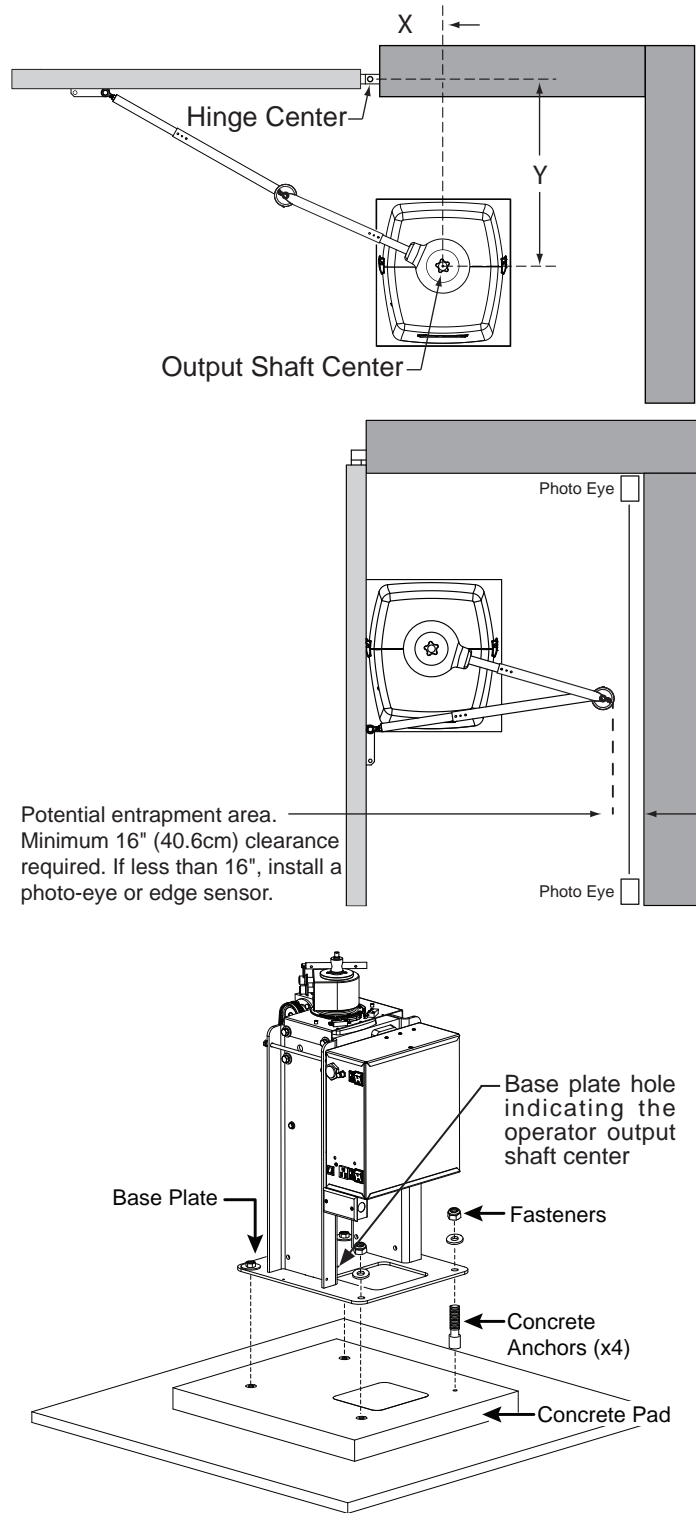

Figure 5. Mounting Operator
2. Before placing the operator on the pad, measure and mark the output shaft center on the concrete pad by selecting the X and Y dimensions. Refer to Figure 5 & Table 2.
3. Set the operator base on the concrete pad and use it as a template. Position the operator base so the center mark on the pad aligns with the small hole in the base plate (see callout in Figure 5). Mark the fastener and conduit cutouts. Remove the operator from the concrete pad and drill the holes for the concrete anchors.
4. Mount the operator with four 1/2 x 3/2-inch concrete anchors as shown in Figure 5.